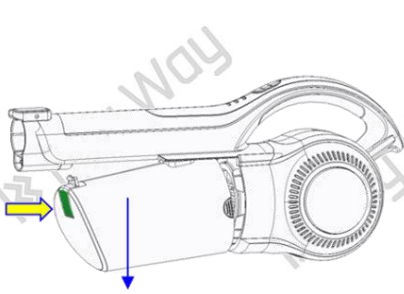

Fig. 15
1. Switch off the appliance and let it cool down completely. Remove any attached accessories. Bring your appliance close to the trash can. Press the dust cup release button and remove the dust cup as shown in fig. 15.